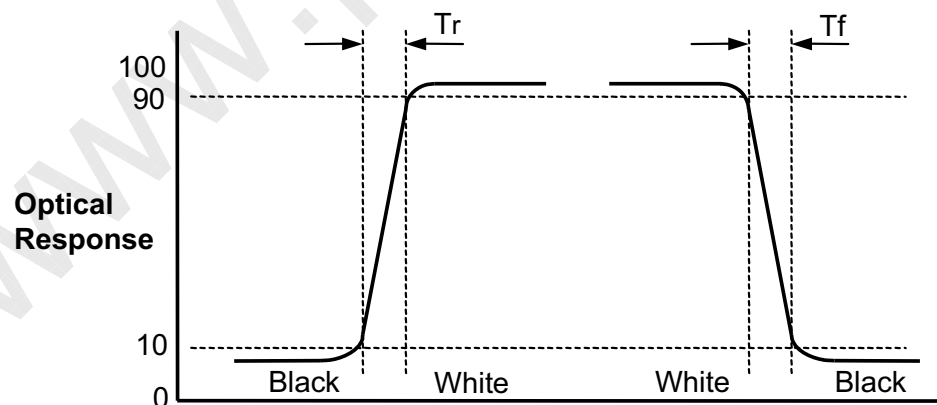

FIG. 11 Response Time
2. Response time is the time required for the display to transition from G(0) to G(255) (Rise Time, Tr_R) and from G(0) to G(255) (Decay Time, Tr_D). For additional information see the FIG. 11.